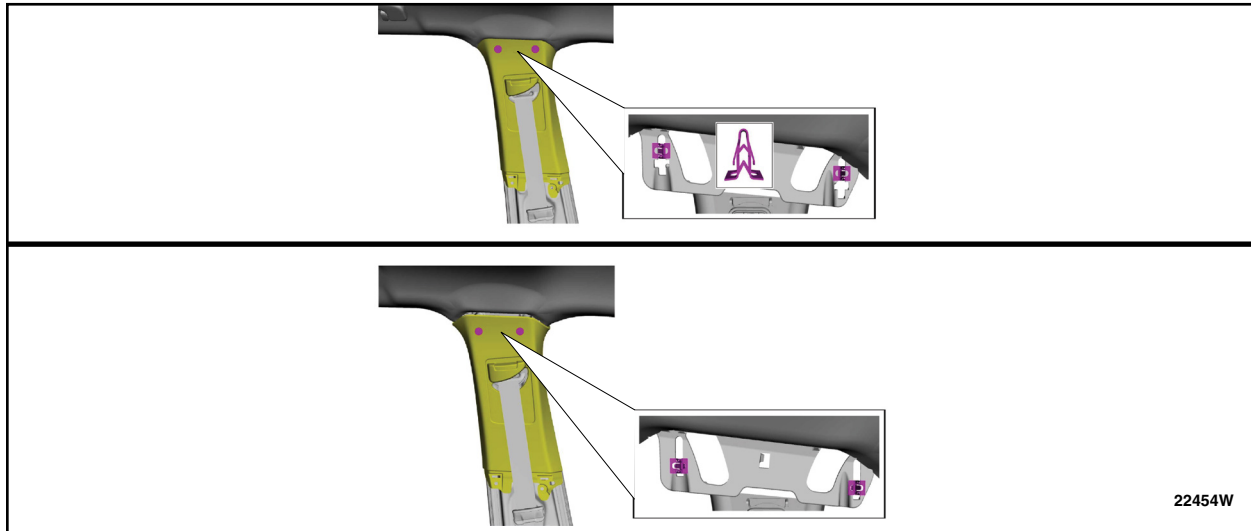

FIGURE 4
7. On both sides slide the B-pillar upper trim panel down, aligning the clips to the slots in the sheet metal. See Figure 4.